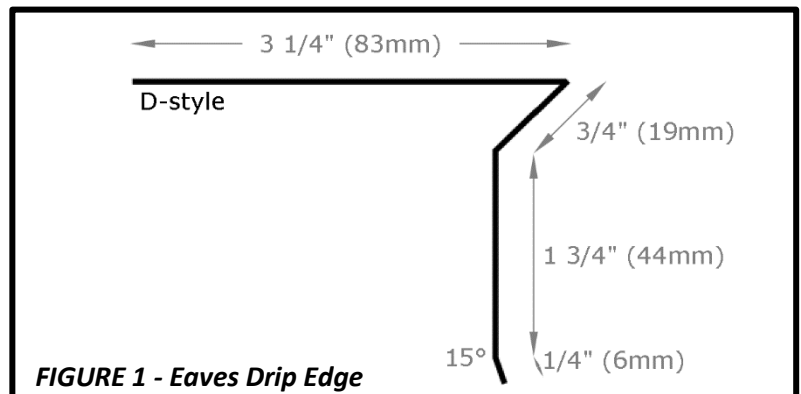

FIGURE 1 - Eaves Drip Edge
- **EAVES** - FWAVE recommends a **D-style drip edge** at the eaves, extending a minimum of **2" (51mm)** back from the roof edge; bending downwards over the fascia. See **Figure 1**. Apply underlayment over drip edge metal at eaves.